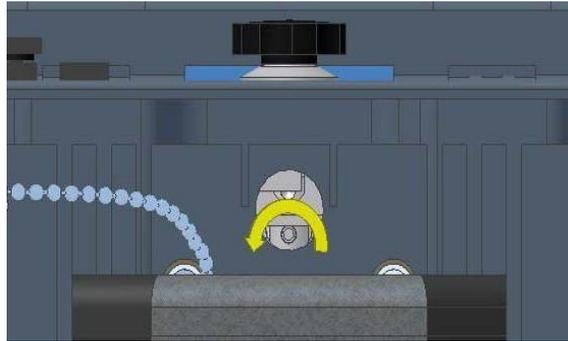

Figure 2-21: Loosen the Setscrew
4. Use a 3/32-inch Allen wrench to loosen the setscrew (see Figure 2-21). To view the setscrew, you may need to position the instrument case so that surrounding light can shine through the opening. You can also use a flashlight.